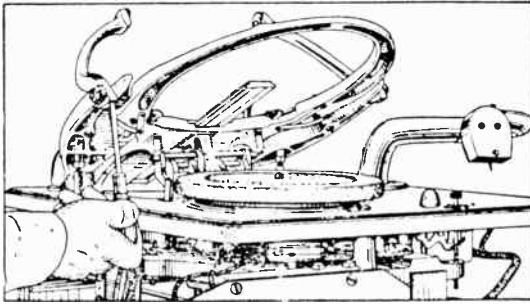

Fig. 10 - Adjusting Hopper Arm Screws
- c. Hopper arm improperly aligned, allowing the two bottom records to pass under the arms. Lower the hopper arms by turning the small adjusting screws as shown in Fig. 10, so that both hopper arm spacers touch the lift ring when the latter is in its raised position and there are no records in the hopper. Spacing for the gates on the hopper arms should be between .093" and .107".